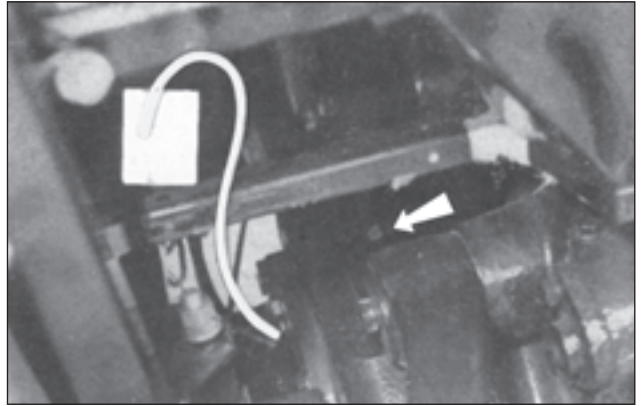

Fig. 186
Fix the bleed screw with a rubber hose and place the other end of the hose to the bottom of the transparent vessel filled with the brake fluid (Fig. 186 and 187). Then unscrew the bleed screw by a maximum of 1/4 turn, depress the brake pedal and tighten the bleed screw again. The pedal can be released as soon as the bleed screw is completely tightened. Repeat this procedure until no bubbles escape from the hose. Take care to hold the bowl as high as possible and to have the hose end still immersed in the fluid. Carry out the bleeding while the brake pedals are unlatched and bleed each wheel brake separately. Make sure there is always fluid in the tank while bleeding to prevent air re-entering the system and take care that the fluid does not get into brakes around the bleed screw. The hydraulic circuit for the clutch disengagement is bled in the same way.
2. Loosen the adjusting nut on the left band brake — the access to the nut is through the opening in the floor or from the rear side of the tractor (Fig. 186).